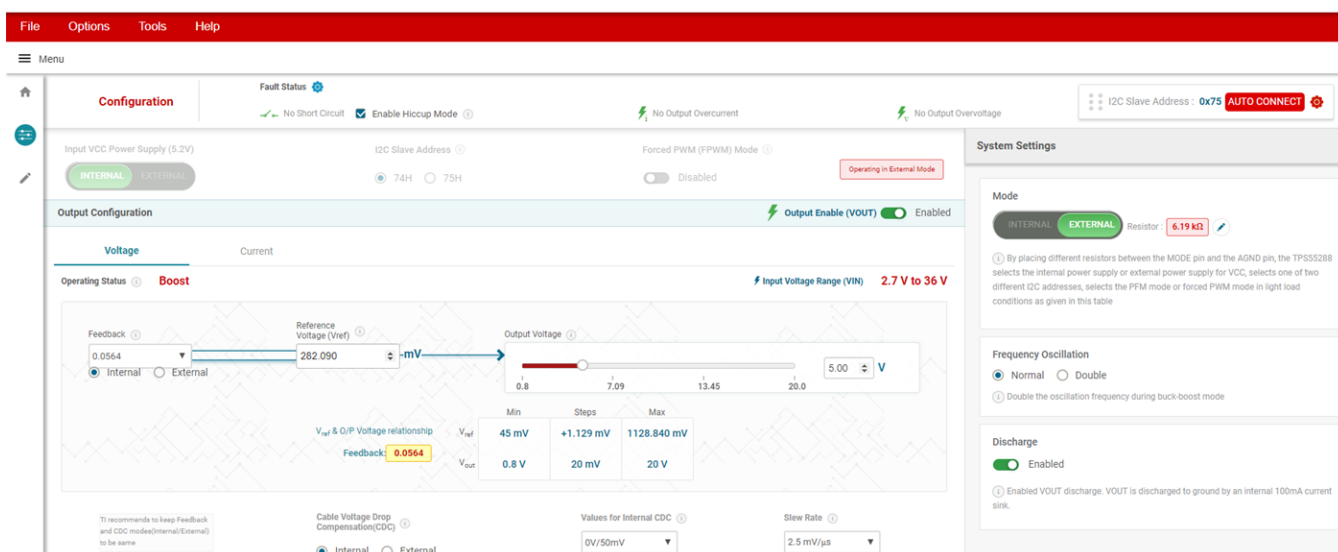

Figure 4. GUI User Interface of TPS55288EVM-053
Step 4: Click the start button. It will show the GUI user interface of TPS55288EVM-053 (Figure 4).